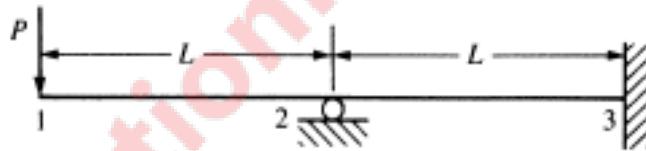

Figure 6
- Q.8 (a) Using direct stiffness method, determine stiffness matrix, displacement and slope at various nodes for propped cantilever beam shown in Figure 6. Propped cantilever beam is subjected to end load P. Beam is assumed to have constant  $EI$  and length  $2L$ . It is supported by a roller at mid length and is built in at the right end. 07